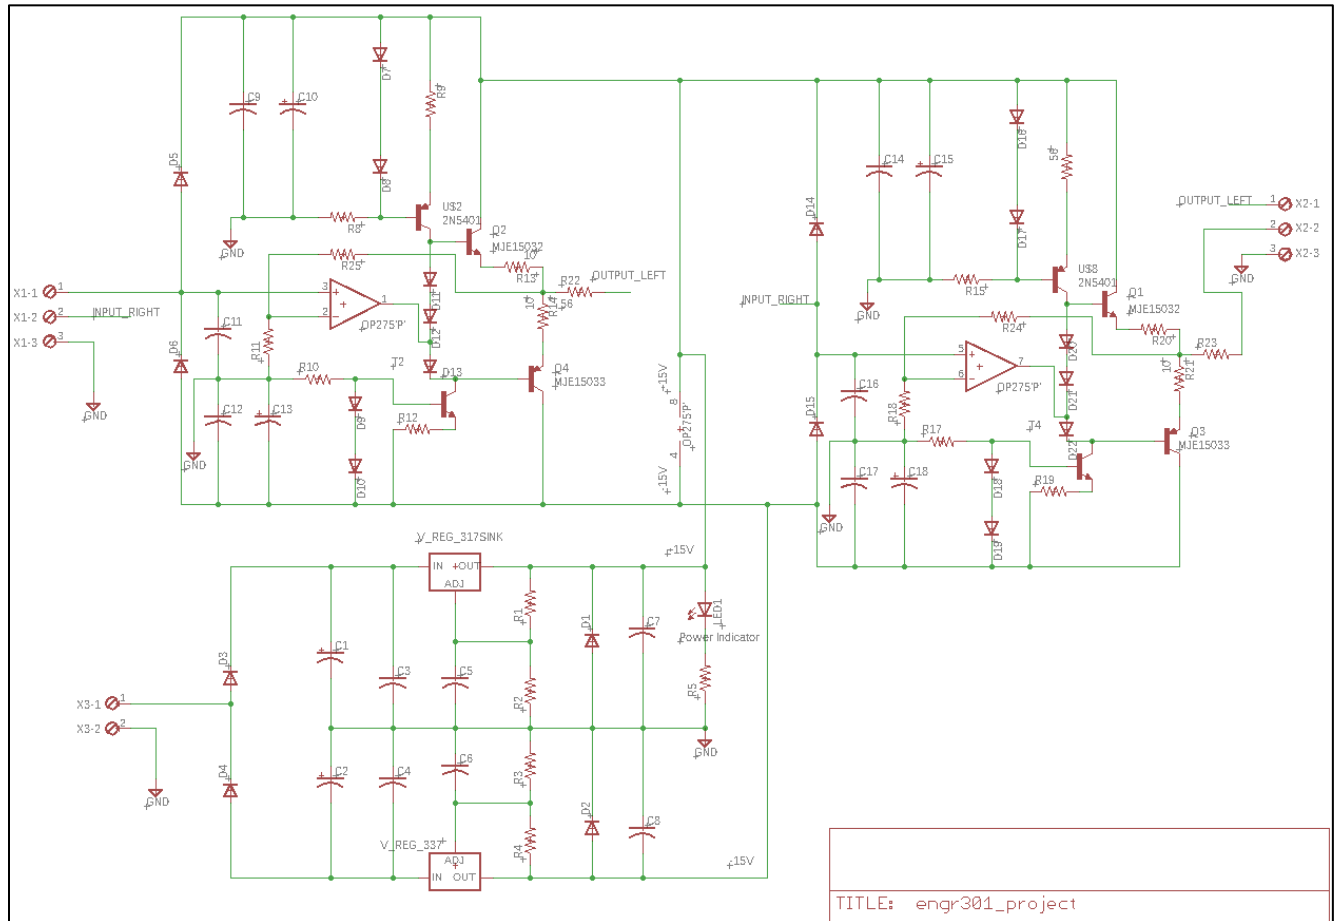

Figure 1: Final Project Schematic
these three symbols. The number on the symbol represents the pin number of the chip. See Figure 1.
- For the input, the potentiometer and the audio jack can be replaced with three-pin terminal block: one connects to diodes D5 and D6, the other one to diodes D14 and D15 (right channel), and the other one to GND. See Figure 1.
- For the output, the 56-ohm resistor can be soldered onto the board. You can replace the audio jack with three-pin terminal block: one for left, one for right, and one for GND. See Figure 1.
- Copy the left channel schematic over. Connect the opAmp's power and input/output pin accordingly. Connect the input and output terminal blocks accordingly. See Figure 1.